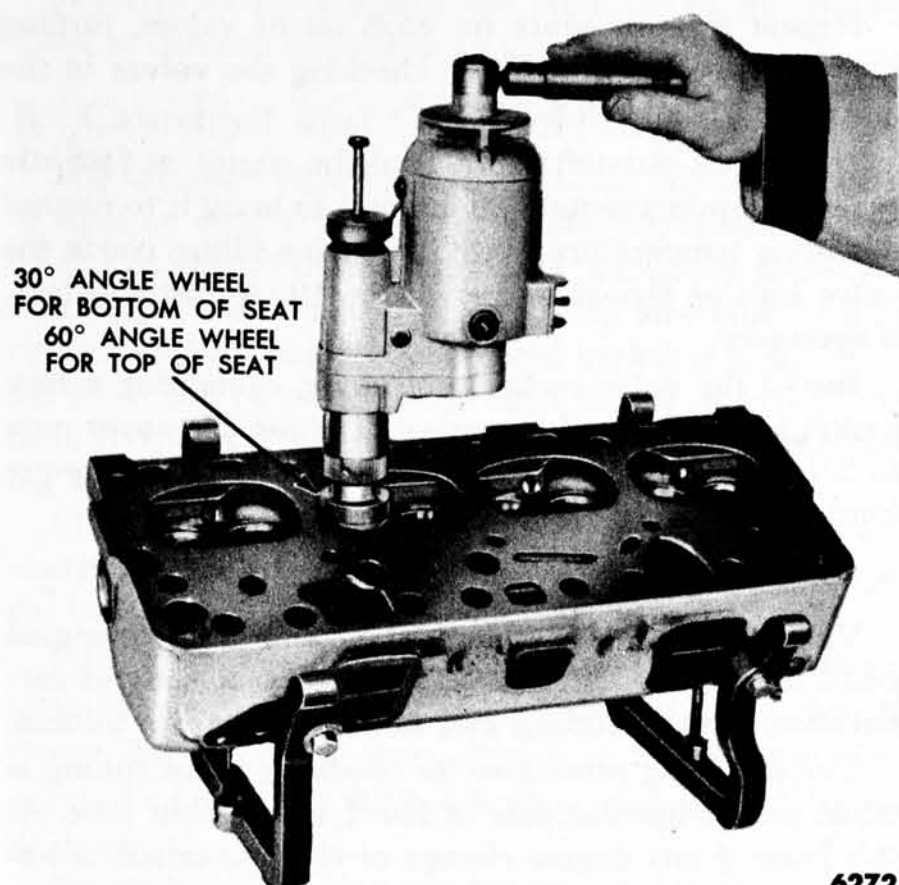
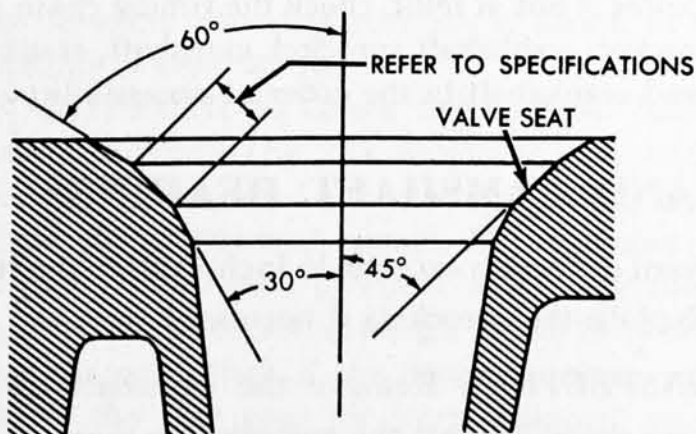

Fig. 16—Refacing Valve Seat
Fig. 17—Valve Seat Width
(3) **REFACING VALVE SEATS.** Grind the valve seat with a grinder (fig. 16). Remove only enough stock to clean up pits or grooves in the seat. If the valve seat width exceeds specifications (fig. 17), remove just enough stock from the top and bottom edge of the seat to reduce the width. Use a 30° angle wheel to remove stock from the bottom of the seat and a 60° angle wheel to remove stock from the top. Keep the seat as near to the center of the valve face as possible.